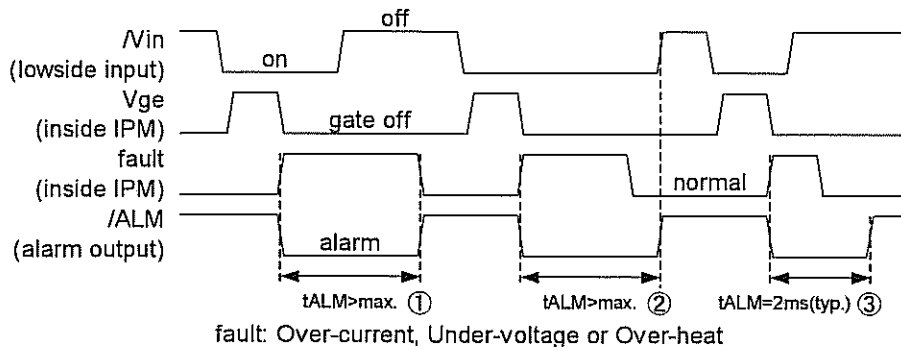

Figure2. Input/Output Timing Diagram.
Necessary conditions for alarm reset (refer to ① to ③ in figure2.)
- ① This represents the case when a failure-causing Fault lasts for a period more than t_{ALM} . The alarm resets when the input V_{in} is OFF and the Fault has disappeared.
- ② This represents the case when the ON condition of the input V_{in} lasts for a period more than t_{ALM} . The alarm resets when the V_{in} turns OFF under no Fault conditions.
- ③ This represents the case when the Fault disappears and the V_{in} turns OFF within t_{ALM} . The alarm resets after lasting for a period of the specified time t_{ALM} .